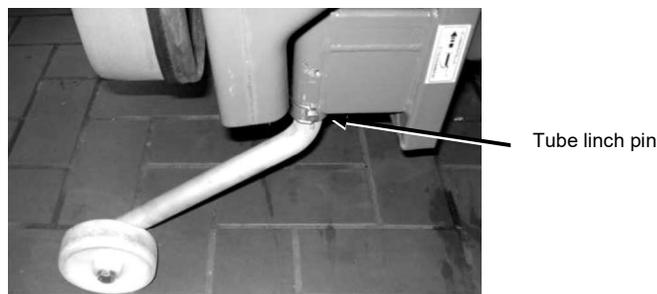

Fig. 37: Support wheels
2. Arrest the support wheels with the tube lynch pin (see Fig. 37).